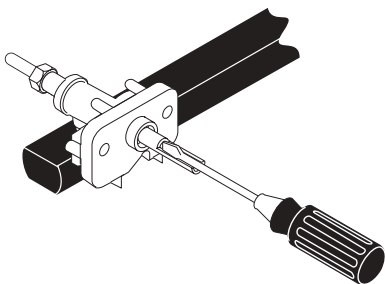

Figure 6
4. Adjust the "LOW" Setting of Surface Burner Valves (see Figure 6)